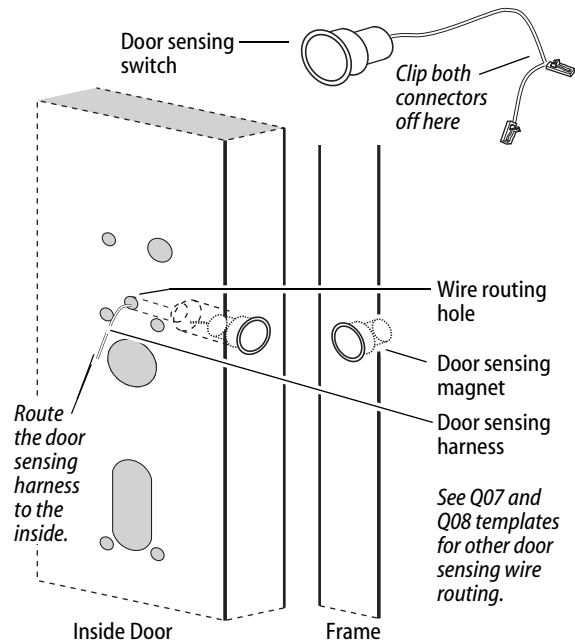

Figure 9 Installing the door sensing switch and magnet, Precision 2100 shown
- 2 Clip off the connector from the white door sensing harness (with black sleeving) and leave as much wire as possible. See Figure 9. These wires will be butt-spliced to the sensing harness from the trim. See "Route sensor wires" on page 14.
- 3 Route the door sensing switch wires through the channel and out through the wire routing hole to the exit device side. See Figure 9.